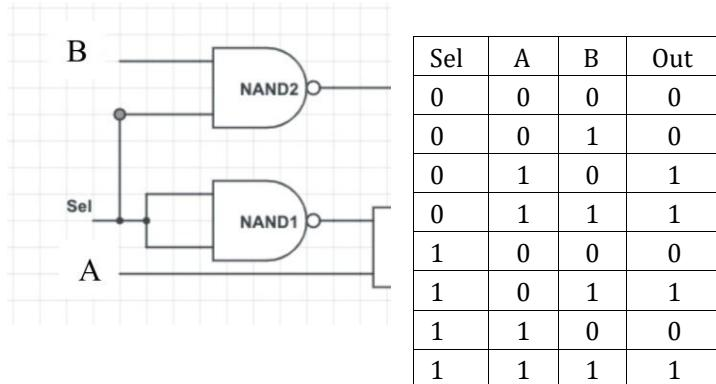

Figure 1: Diagram of Mux designed from NAND gates and Truth Table
- Using your knowledge gained from the learning materials and learning sessions in week 2, write an HDL program to implement the given Mux design in Figure 1 below. The truth table is also given below.